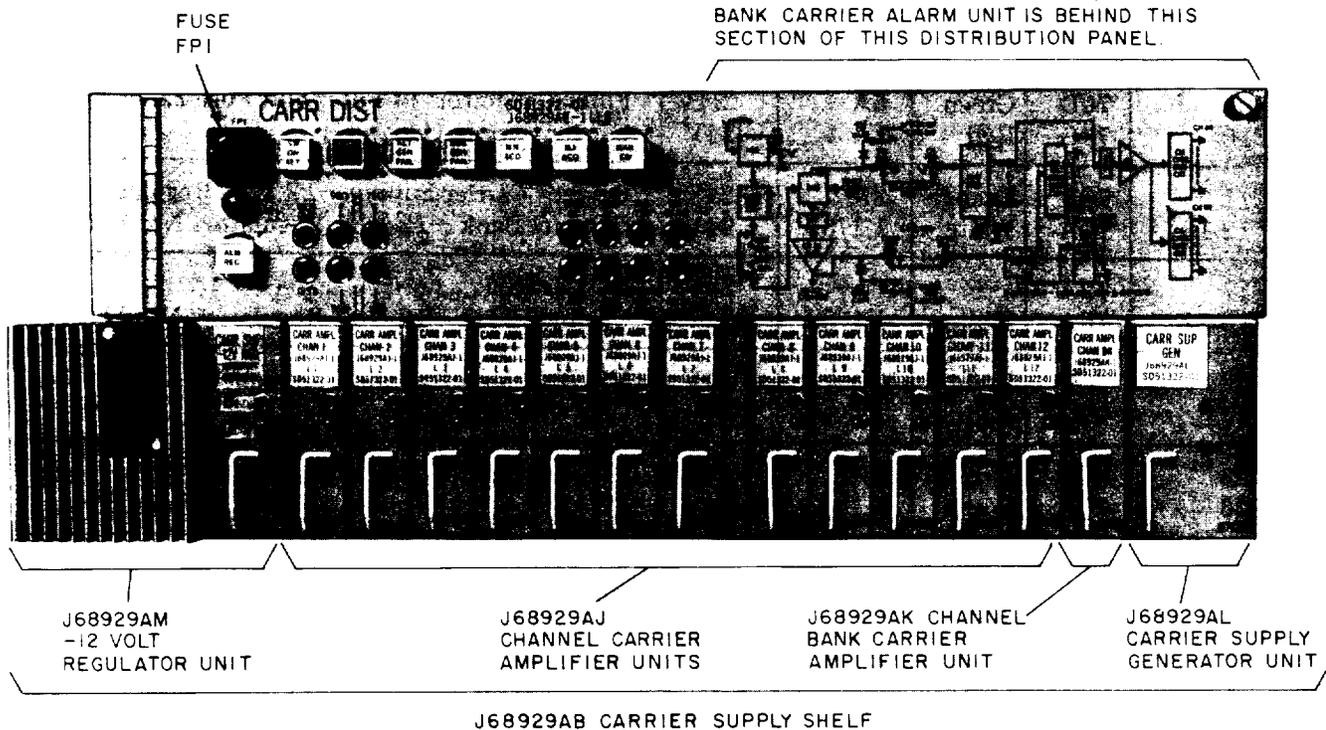

Fig. 2—A6 Carrier Supply and Distribution Panel—First Bay
(b) The CARR FAIL and REG GEN FAIL lamps on the J68929AE (L1 and L2) panel (Fig. 2) are lighted.
- 8 Insert fuse FP1 in the J68929AE (L1 and L2) carrier distribution panel (Fig. 2).
- 11 (a) Insert the J68929AL carrier supply generator unit (Fig. 2).
13	Insert the J68929AM carrier supply -12 volt regulator (Fig. 2).
17	Insert, one at a time, the twelve J68929AJ channel carrier amplifier units and the one J68929AK channel bank carrier amplifier unit (Fig. 2). Requirement: No fuses blow.